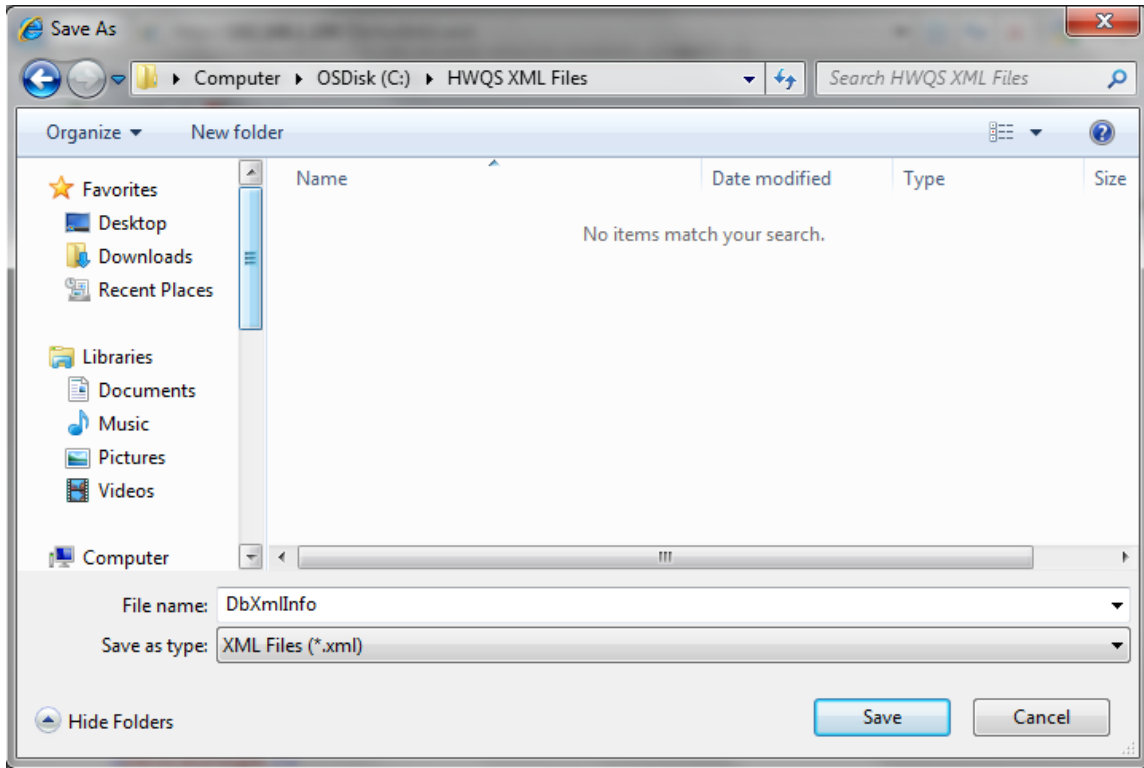

Figure 3
- 6) Save XML file to your desired location. (**Figure 3**)
- 8) Save XML file to your desired location. (**Figure 3**)